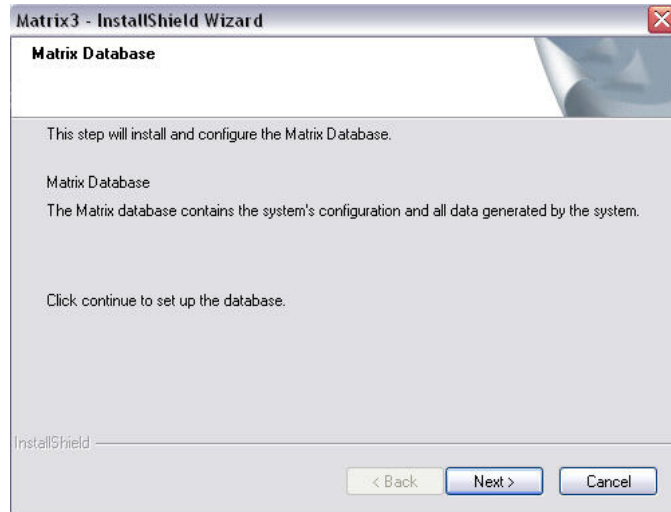

FIG. 22
12. When the Matrix Database setup screen shown in FIG. 22 displays, select NEXT to start the Database setup.